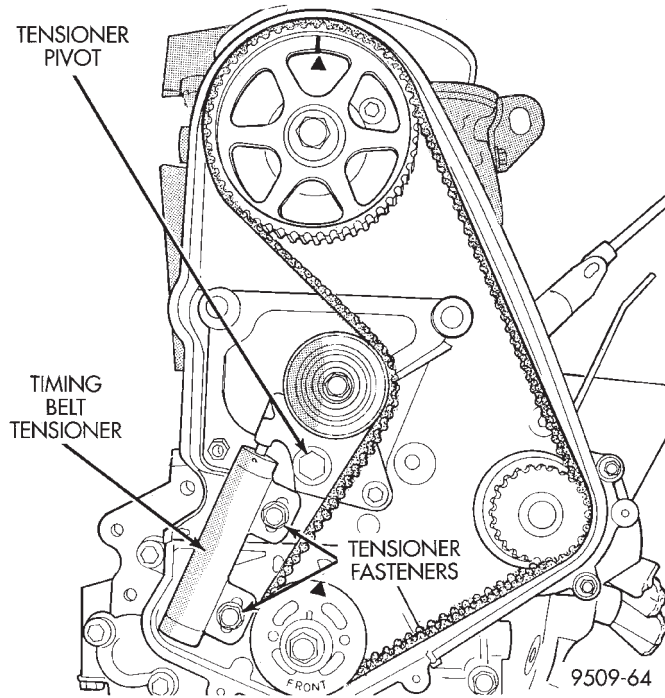

Fig. 46 Remove Timing Belt
- (9) Loosen timing belt tensioner fasteners (Fig. 46) and remove timing belt and tensioner.